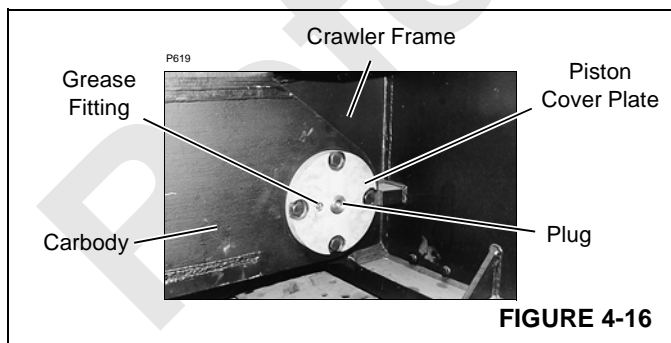

FIGURE 4-16
- a. Pump grease into grease fitting on piston cover plate (Figure 4-16) while holding crawler frame pin switch at DISENGAGE position for 10 seconds.